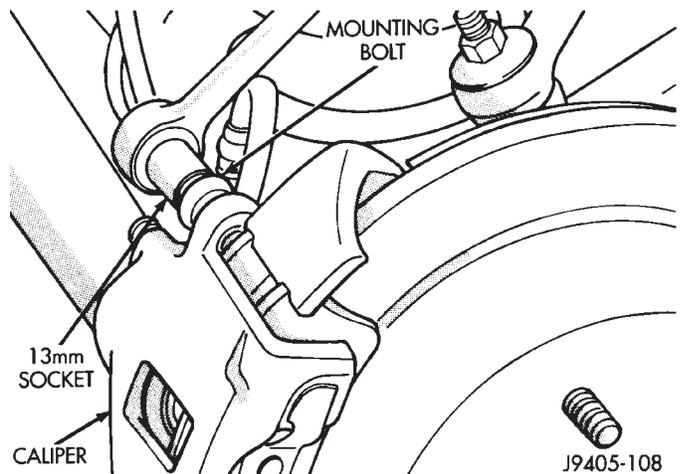

Fig. 37 Caliper Mounting Bolt
- (3) Remove caliper mounting bolts (Fig. 37).
- (4) Rotate caliper rearward by hand or with pry tool. Then rotate caliper and brake shoes off ledges of mounting bracket.
- (5) Remove caliper fitting bolt and disconnect rear brake hose at caliper. Discard metal washers on fitting bolt. Washers should be replaced and not reused.
- (6) Remove caliper from vehicle.